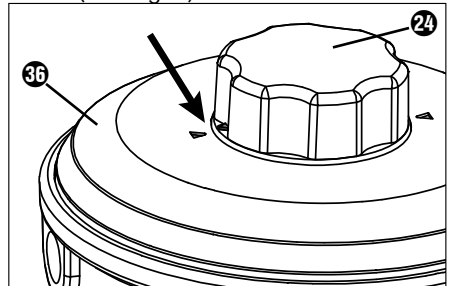

Fig. 1
- ◆ Snap both battery packs  into the motor block  (see Fig. 1).
- 1) Make sure that the two arrows on the cover 36 and on the rotary knob 24 of the line spool 23 point towards each other (see Fig. 1).